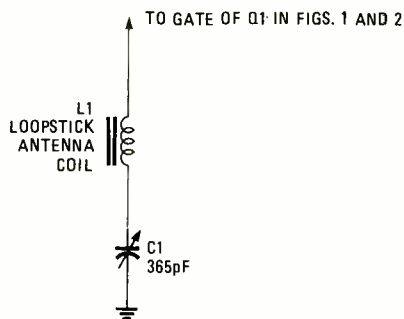

Fig. 3. The Tunable Trap can be adjusted to extract undesirable AM signals and pass what is left to the receiver.
**Tunable Trap.** The add-on circuit, in Fig. 3, is a tunable trap that can be adjusted to extract undesirable AM signals and pass what is left to the receiver. Inductor L1 is a broadcast loopstick-antenna coil and C1 is a tuning capacitor, both of which were salvaged from an older AM transistor radio.
that does occur, determine the transmitter's frequency and select a coil/capacitor combination that will resonate at that frequency, and connect that combination to the circuit as shown in Fig. 3.
ceivable, but buried in noise, this circuit can pull it out of the mud, clean it up, and send it on through the stretcher to the receiver. At the same time that the tuner is increasing the level of the desired frequency, it's also attenuating all other signals outside its passband. The same combination of values for the coil and capacitor in Fig. 3 can be used in this circuit.